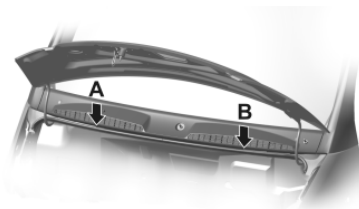

Fig. 2.1. A – location of vehicles VIN; B – location of cab number (vehicles with cargo body) or body number (vans, buses).
**Vehicle Identification Number (VIN) on the vans with all-metal cargo body and buses** appears on the cab front outer panel under the hood on the right side in direction of vehicle movement (see Fig. 2.1, arrow “A” view);
**Cab number (vehicles with cargo body) or body number (vans and buses)** is located on the front outer panel under the hood, on the left in direction of vehicle movement (see Fig. 2.1, arrow “B” view).